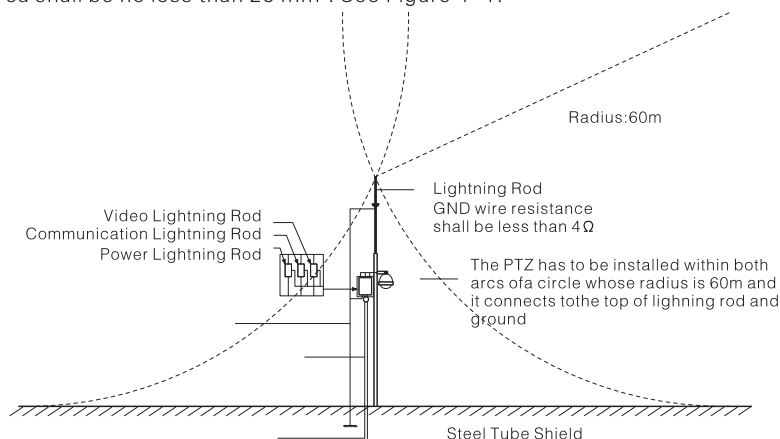

Figure 4-1
- System shall adopt equal-potential wiring. The earth device shall meet anti-jamming and at the same time conforms to your local electrical safety code. The earth device shall not short circuit to N (neutral) line of high voltage power grid or mixed with other wires. When connect the system to the earth alone, the earth resistance shall not be more than  $4\Omega$  and earth cable cross-sectional area shall be no less than  $25\text{ mm}^2$ . See Figure 4-1.